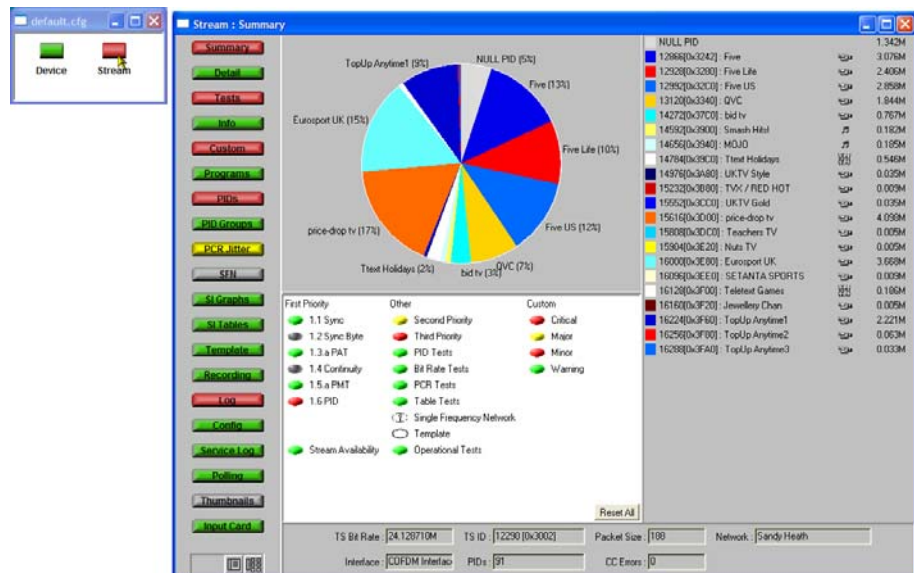

Figure 7: RUI version 2.6.1 display
13. The MTM400 RUI hot spot and Stream Summary windows should now be displayed (see Figure 7).